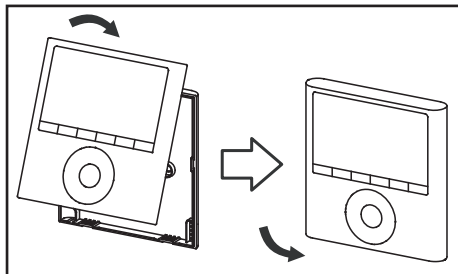

Figure 10. Reattach Controller to Back Plate
5. Reattach the controller to the back plate. Be careful not to pinch or bind the wires. See figure 10.